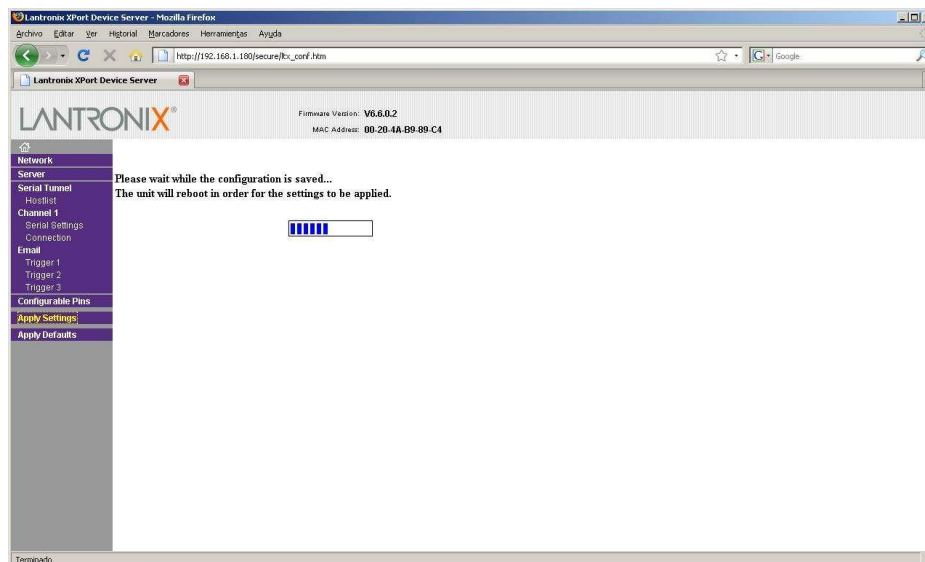

Figure 7.1C
6. Once done, choose the Menu option “Apply Settings” and a page appears just like the **Figure 7.1C**, which will indicate that the data have been saved and that the device is being rebooted in order for the settings to be applied.